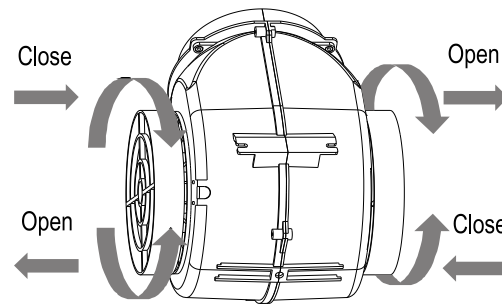

Fig.9
- The carbon filters are located at both end of the motor. Turn the carbon filters until they are locked. See Fig. 9.